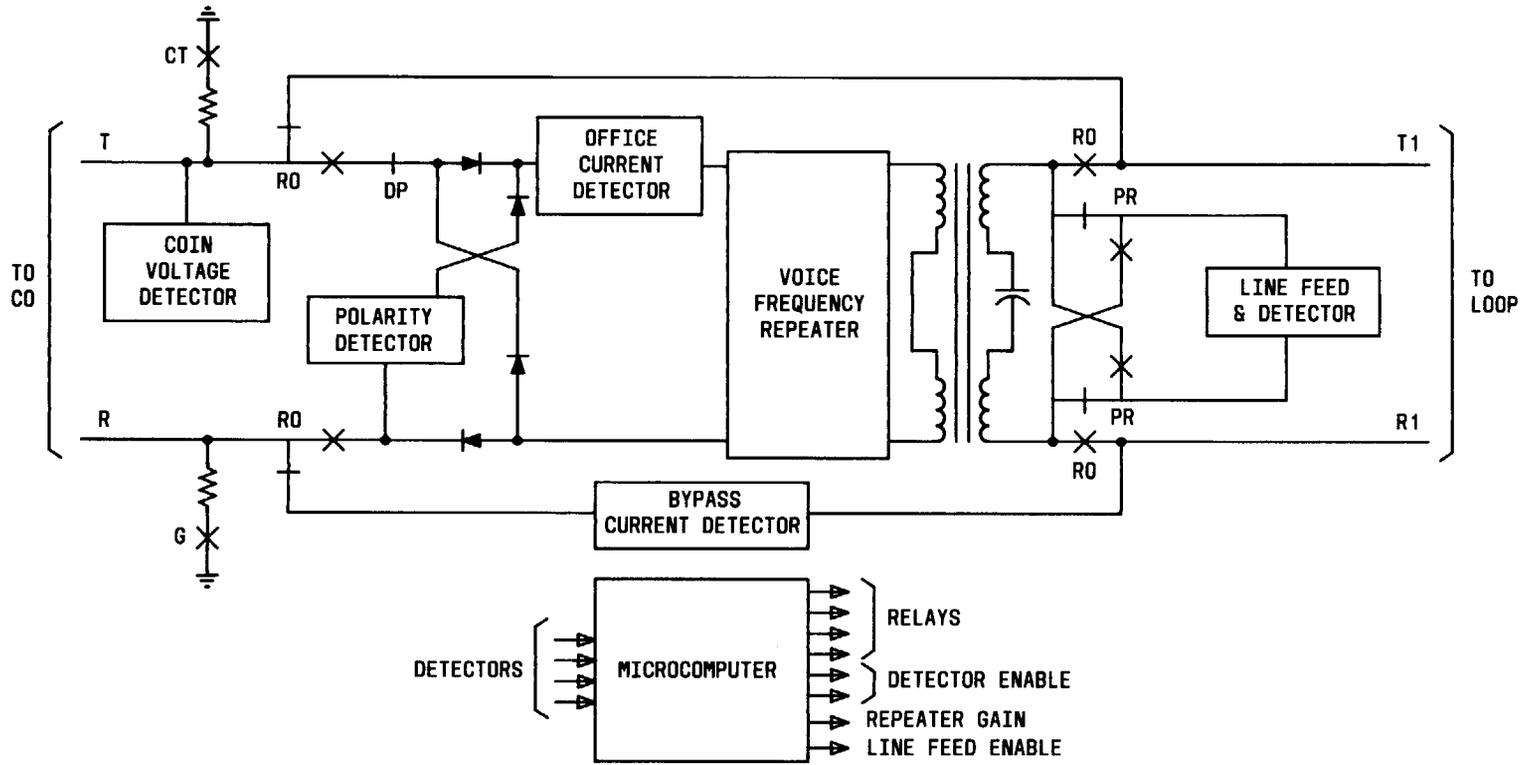

Fig. 2—8A Coin REG Block Diagram
**2.03** A block diagram of the 8A Coin REG is shown in Fig. 2. The principal parts of the 8A are as follows:
- (a) Voice frequency (VF) repeater
2.10 Voice frequency signals are passed through a repeat coil (shown in Fig. 2) which interfaces between the 8A repeater and the coin loop. The
2.11 Operation of the 8A REG involves five detectors and five main relays as shown in Fig. 2. The 8A microcomputer is programmed to
**4.02** Functionally, the 8A REG has two basic states; bypass and active. In the bypass state, the circuit is a simple metallic connection of input to output. In the active state, the circuit input is connected to the output through the 8A repeater and repeat coil (see Fig. 2).